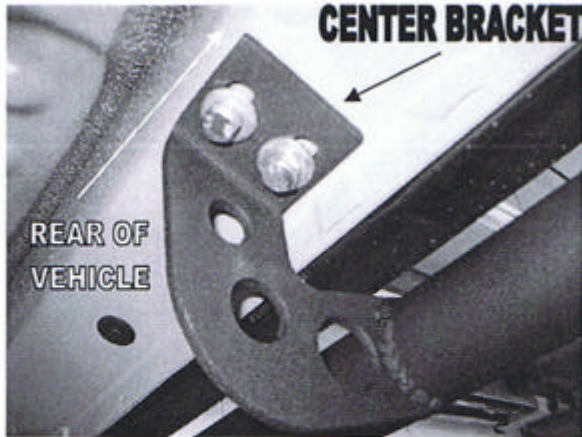

Fig 4a
- ⊘ (a) Starting with the center Bracket, Start one 8mm Hex bolt, 8mm Lock Washer and 8mm Flat washer into the factory bolt location. (Fig. 4a) **Note.** Step board should hang in location with the bent flange toward the rear of the vehicle.
- ⚠ (b) Start the other 8mm Nut, 8mm Lock washer and 8mm washer on the same Bracket. **Note:** Hand tighten. (Fig 4a)